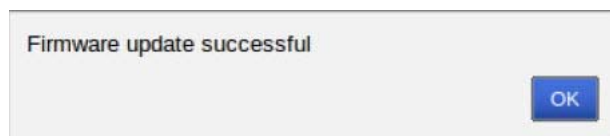

FIG. 24 Firmware Update Successful
4. Upon completion of the firmware update process, a pop-up dialog will be displayed with the status of the update (FIG. 24). Upon success, you may have to refresh and/or login to the web page again.